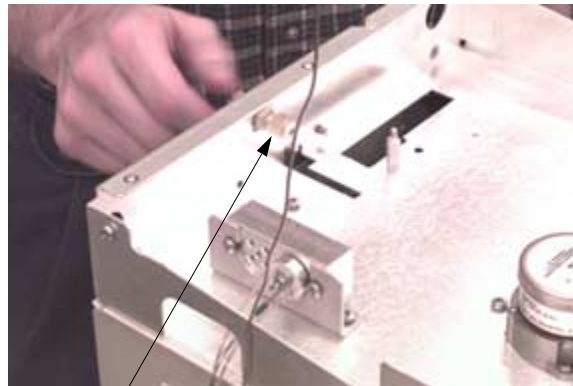

FIGURE 4
- 1.1.8 Install bulkhead union, 28-693973-00 to rear chassis top as shown. Secure using 1/2" wrench. See Figure 4.